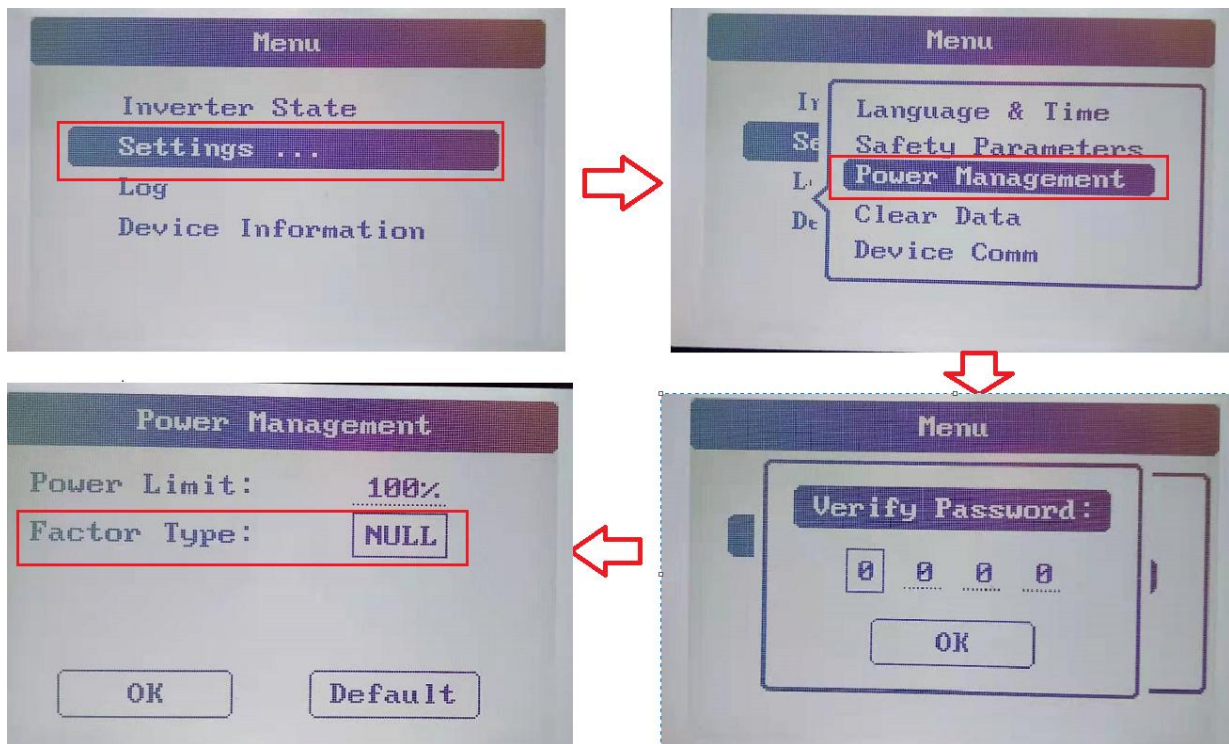

Figure 3-4
Step 4: After the password is entered correctly, the user can Enter the following menu. The user can select the power quality mode that need to be set through the "up" and "down" keys(four modes are provided,as shown in figure 3-5), and then press the "ENTER" button to confirm. After successful setting, "OK" will be prompted, and then press the "Esc" key to return to the main screen,the general steps are shown in Figure3-4